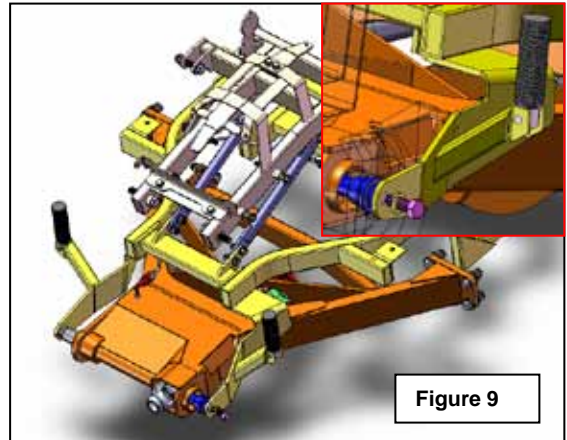

Figure 9
- a. Attached OEM passenger foot pegs previously removed to body frame. Figure 9.
- b. Install body frame to outside of swing arm pivot bolts as shown using supplied hardware. Figure 9.